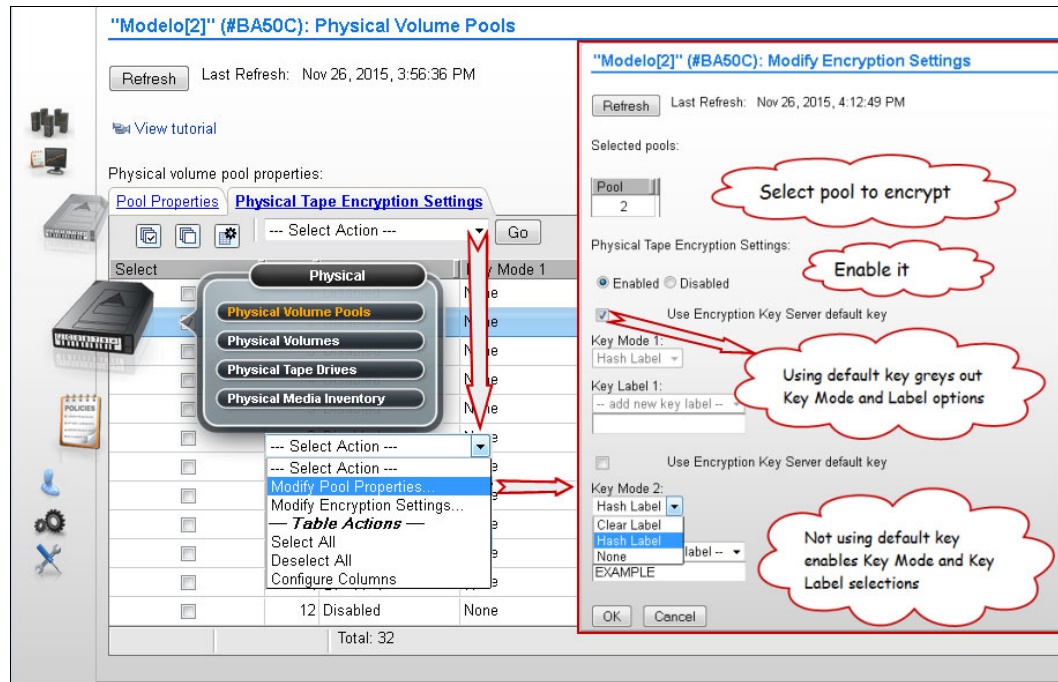

Figure 9-103 Modify encryption settings parameters
To modify encryption settings for one or more physical volume pools, complete the following steps (Figure 9-103 on page 545 shows this sequence). For more information, see “Physical Volume Pools” on page 428:
5. Click **Go** to open the Modify Encryption Settings window (see Figure 9-103).